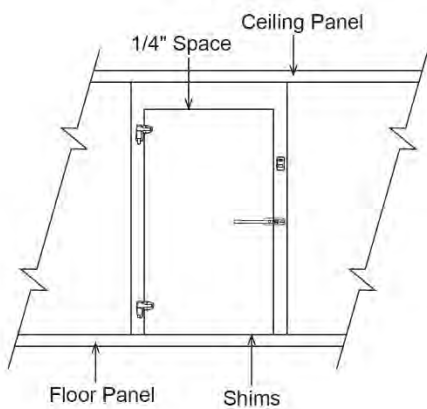

Figure 1
- Place shims under door (see figure 1 below).
- Shim under door as necessary to provide a 1/4" space between top of door and the door frame to ensure square fit (see figure 1).